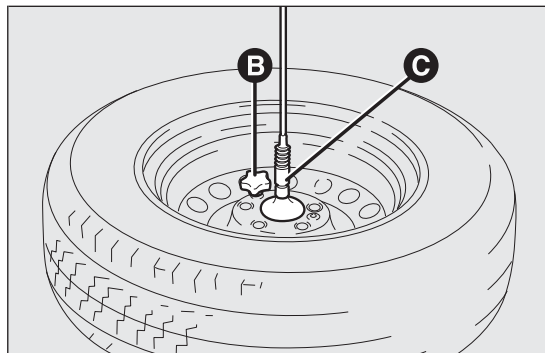

fig. 119
- ☐ remove the cap B fig. 119 and release the strap, when free the wheel from the toothed support C by loosen the two screws;